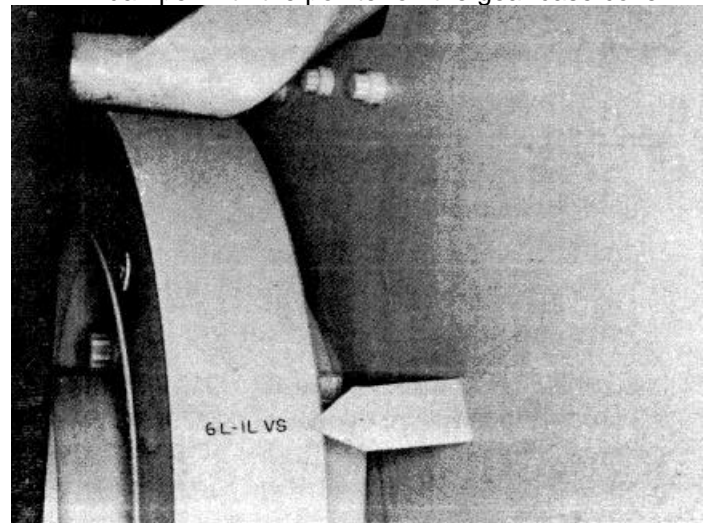

Fig. 2-59, (K21917). Valve set marks on vibration damper -KT(A)-2300
1. When viewing the engine at the vibration damper, Fig. 2-59, align the timing marks on the damper with the pointer on the gear case cover.